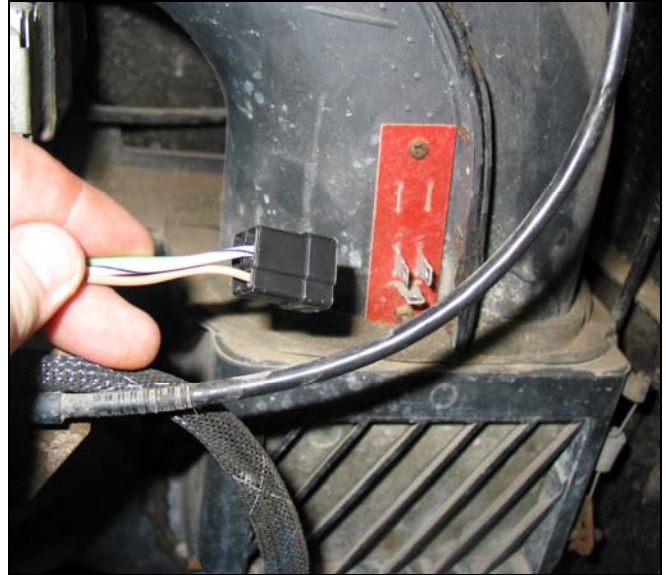

Figure 7.7.4 Heater Resistor
- 7.7.4** Locate the HEATER RESISTER connector pre-installed on the Painless harness. This will be a black 3-way "T" shaped connector. This connector needs to be connected to the 3 prongs located in the passenger side foot well, see **Figure 7.7.4**.